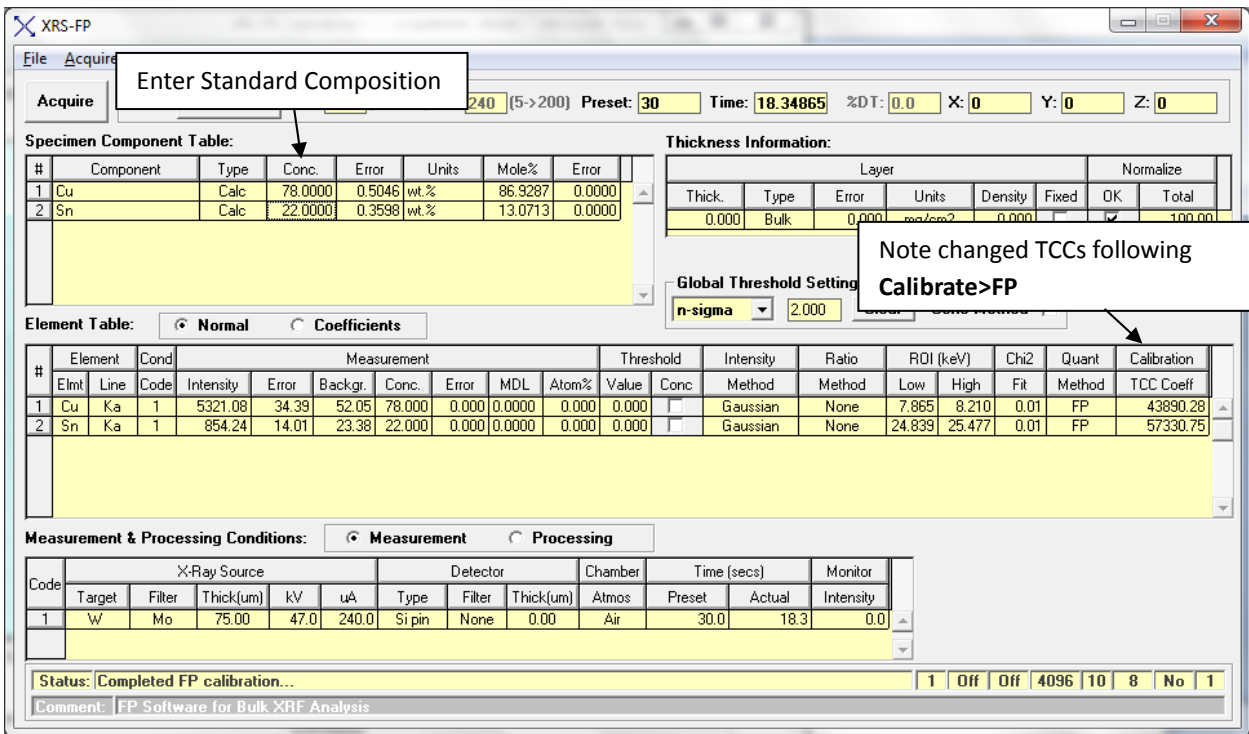

Figure 15
10.4. Generate Calibration Coefficients – click **Calibrate>FP** you will note a small change in the TCC values due to the rounding of the standard composition – Figure 15 below. At this point you would want to save the Type Standard Calibration to a new name – **File>Save As** (file type, XRF report, *.tfr) **Bronze Bulk Analysis Type Std**